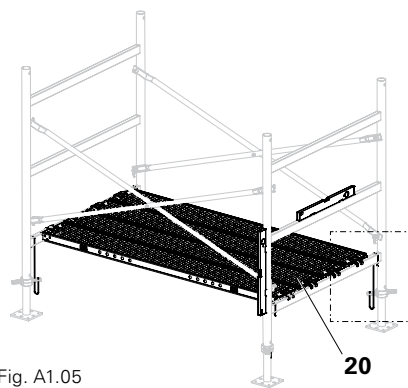

Fig. A1.05
7. Lay out four Steel Decks UDG (20) on the bottom struts of the Frame. (Fig. A1.05)